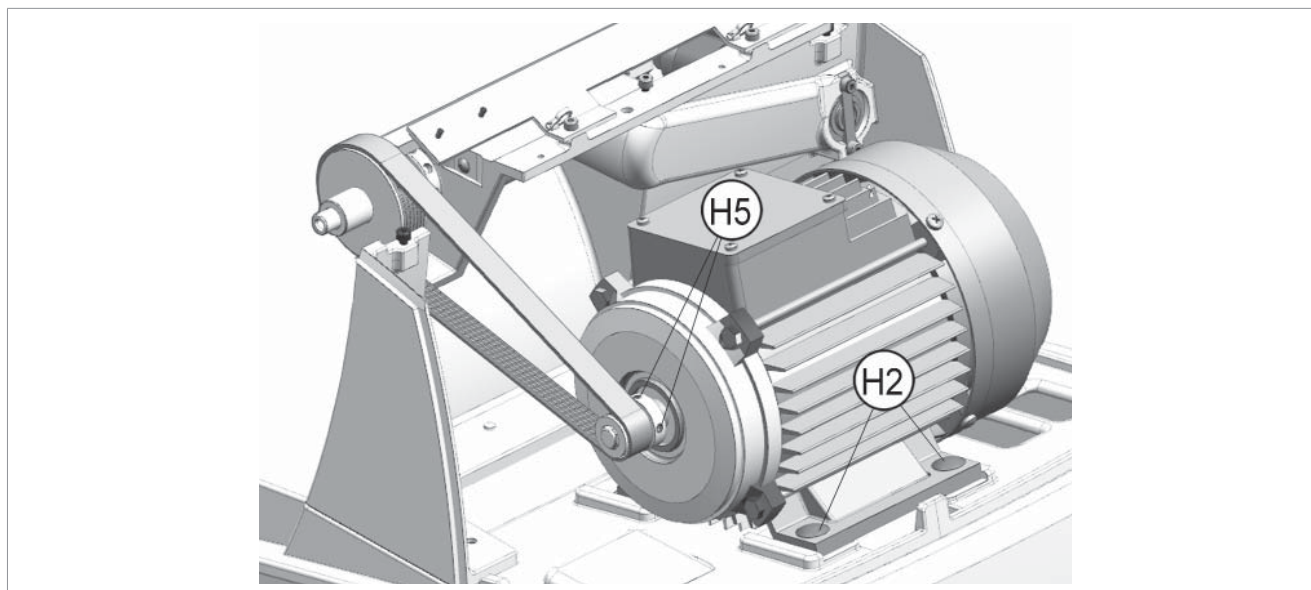

Fig.83
- 3) Loosen but do not remove the 2 grub screws (H5) fixing the motor (Fig.83).
- 11) Slide out the motor (upwards) and remove the 4 screws (H2) (Fig.83).